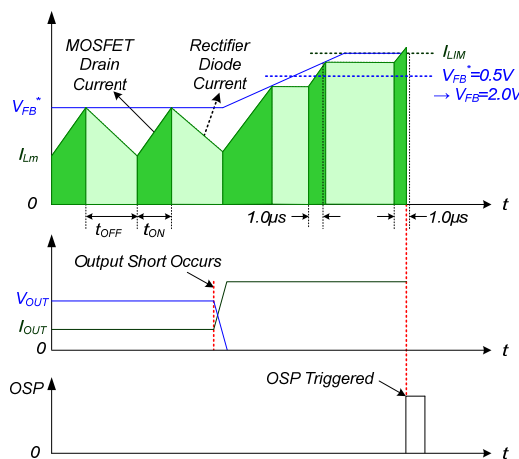

Figure 22. Output-Short Protection
**4.3. Output-Short Protection (OSP):** If the output is shorted, steep current with extremely high  $di/dt$  can flow through the SenseFET during the minimum turn-on time. Such a steep current brings high-voltage stress on the drain of the SenseFET when turned off. To protect the device from this abnormal condition, OSP is included. It is comprised of detecting  $V_{FB}$  and SenseFET turn-on time. When the  $V_{FB}$  is higher than 2.0V and the SenseFET turn-on time is lower than  $1.0\mu s$ , the FSL176MRT recognizes this condition as an abnormal error and shuts down PWM switching until  $V_{CC}$  reaches  $V_{START}$  again. An abnormal condition output short is shown in Figure 22.